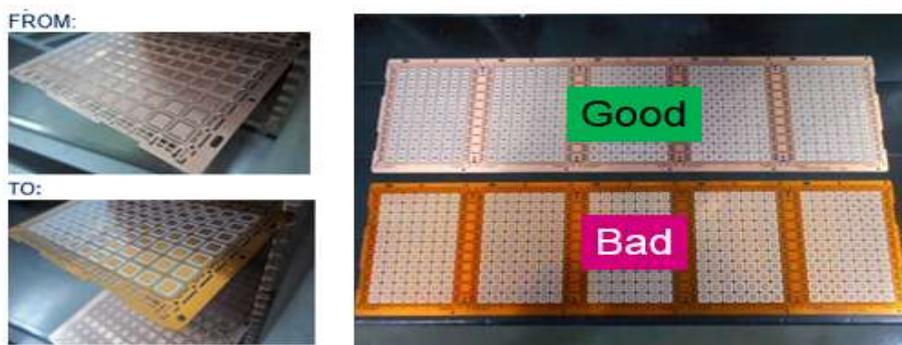

Fig. 3. Leadframe status after curing process
- In Fig. 3 shows an example of oxidized copper leadframe after curing. The change in color for the copper leadframe signifies the presence of oxidation.